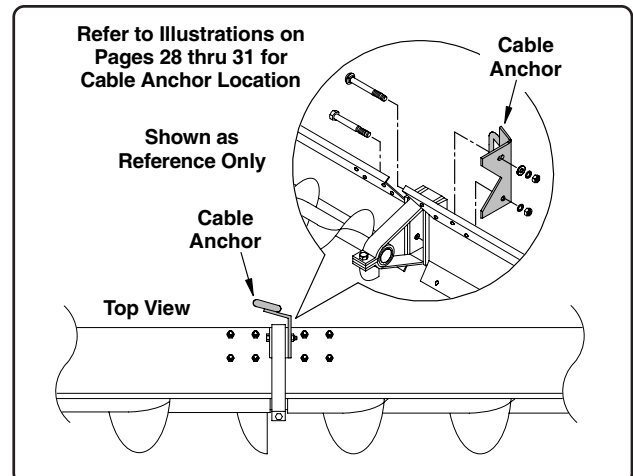

Fig. 18
4. Install a bearing stand onto the end of the flight and shield section. Position the fourth shield and the cable anchor bracket (See Fig 18) against the bearing stand and secure using two 3/8" x 3 1/2" bolts, flat washers, lock washers and non-lock nuts.